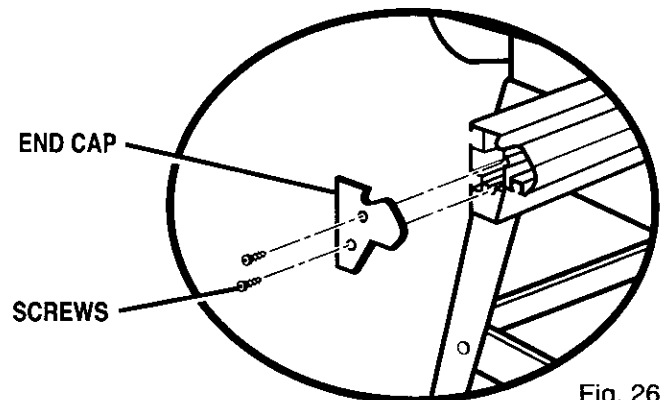

Fig. 26
- Put the end caps on the rail ends. Insert the screws and tighten with a phillips screwdriver. See Figure 26.